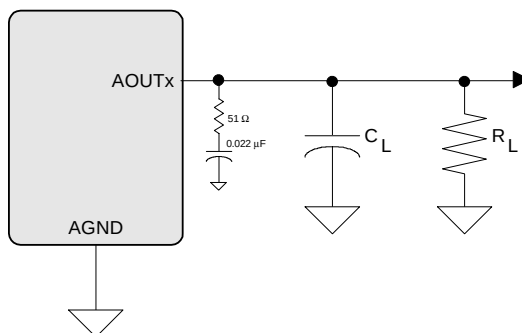

Figure 2. Headphone Output Test Load
8. See Figure 2. R_L and C_L reflect the recommended minimum resistance and maximum capacitance required for the internal op-amp's stability and signal integrity. In this circuit topology, C_L will effectively move the band-limiting pole of the amp in the output stage. Increasing this value beyond the recommended 150 pF can cause the internal op-amp to become unstable.
Test conditions (unless otherwise specified): Input test signal is a full-scale 997 Hz sine wave; Sample Frequency = 48 kHz; Measurement Bandwidth is 20 Hz to 20 kHz; Test load $R_L = 16\ \Omega$, $C_L = 10\ \text{pF}$ (see Figure 2); "Required Initialization Settings" on page 37 written on power up.
Test conditions (unless otherwise specified): Input test signal is a full-scale 997 Hz sine wave; measurement bandwidth is 20 Hz to 20 kHz; Sample Frequency = 48 kHz; Test load $R_L = 10\text{ k}\Omega$, $C_L = 10\text{ pF}$ (see Figure 2); "Required Initialization Settings" on page 37 written on power up.